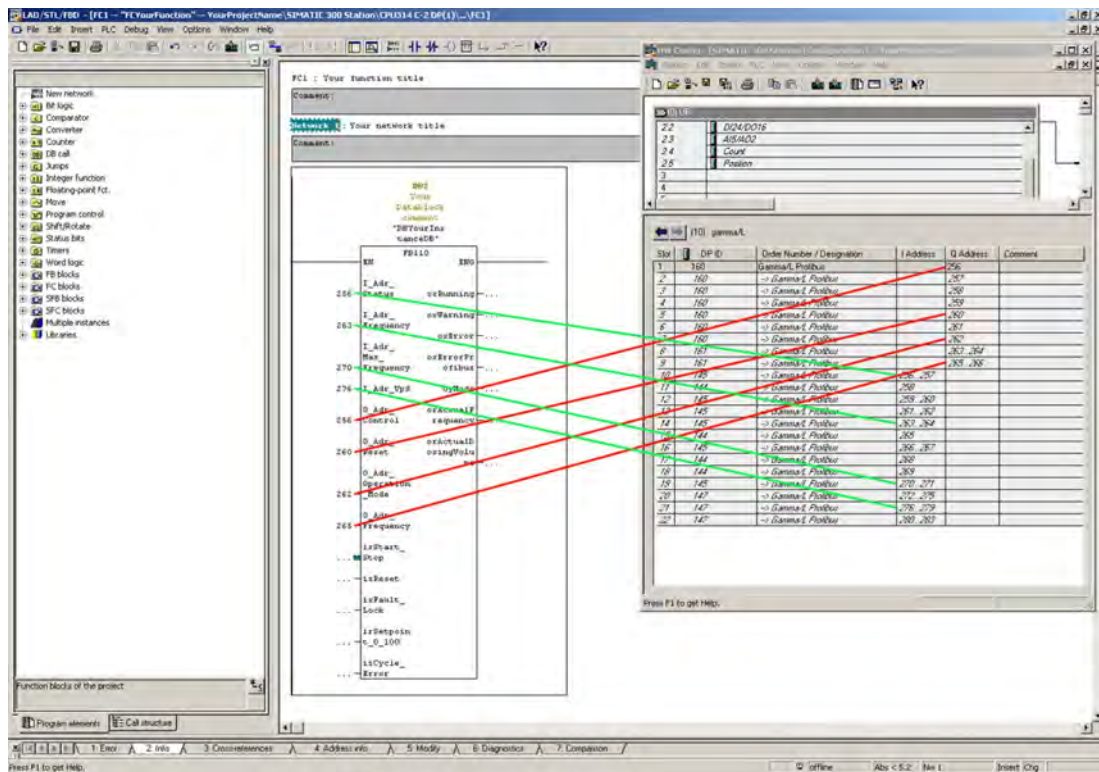

Fig. 27
12. In the function block, click in front of the selected address name (left in Fig. 27, bordered).